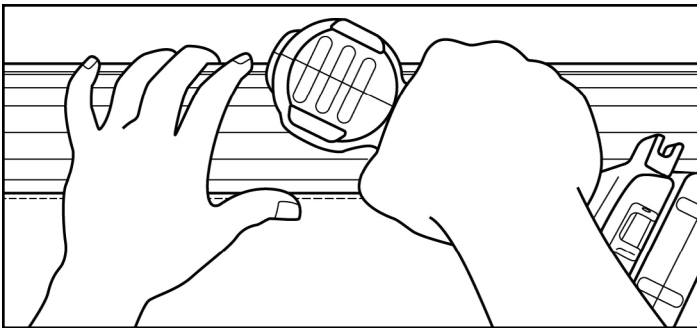

Fig.39
5. Drill a $\frac{3}{8}$ " hole at the mark made on the roll tube (Fig.39).